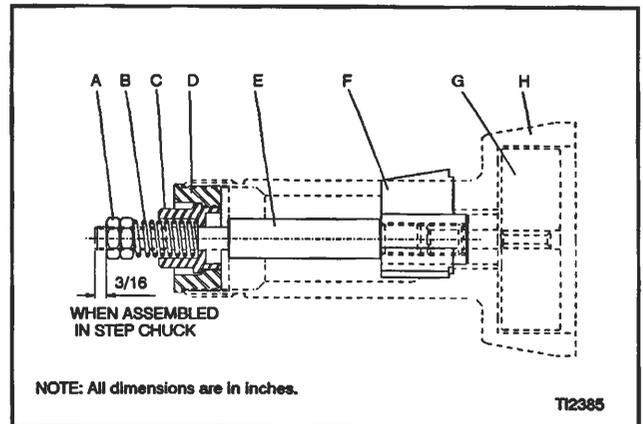
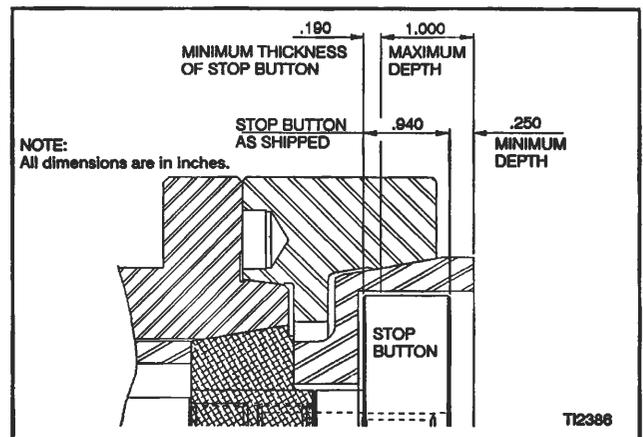

Figure 1 - Dead Length Step Chuck Assembly
Figure 2 - Stop Button Dimensions
1. Machine the O.D. and front face of stop button "G", Figure 1, per the dimensions shown in Figure 2.
11. Thread two nuts "A" onto draw bar "E" until approximately 3/16 inch (4 or 5 threads) are exposed as shown in Figure 2.